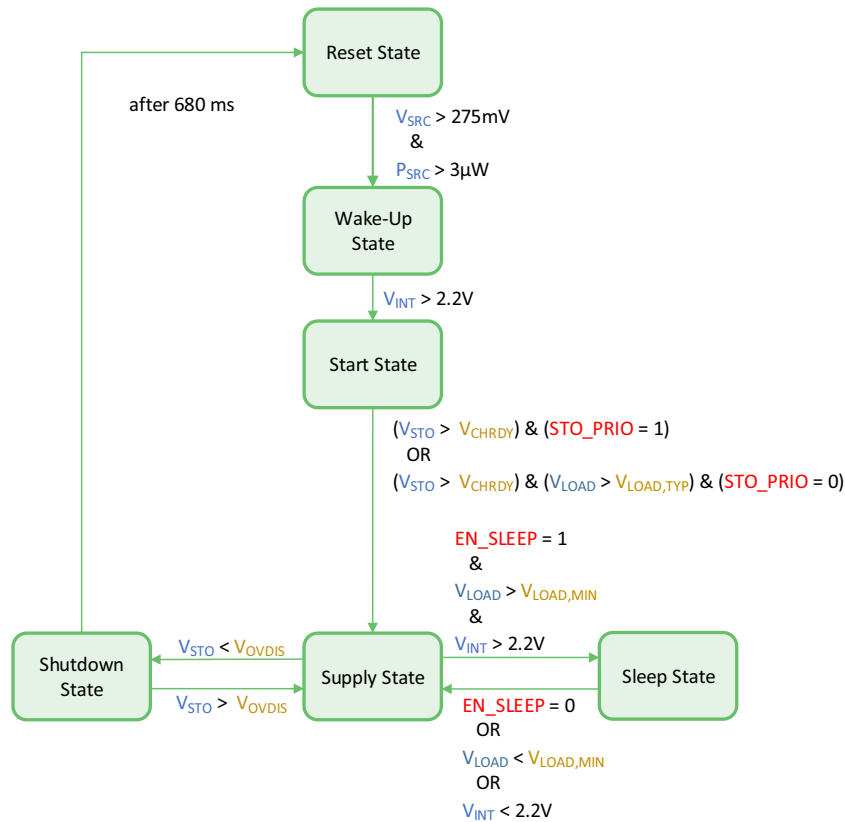

Figure 5: Diagram of the AEM10330 States
- If **EN_SLEEP** is HIGH and conditions (shown on Figure 5) on V_{LOAD} and V_{VINT} are satisfied, the AEM enters **SLEEP STATE** (see section 7.3.4).